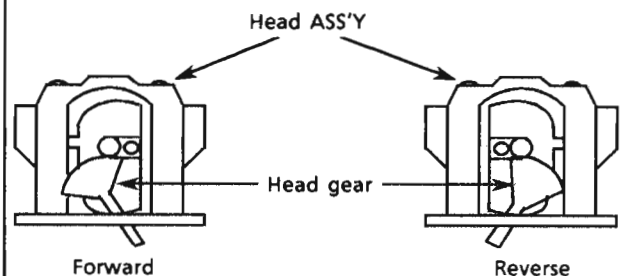

Fig 19
2. Remove the FPC holder (Fig 19).
1. Release the hook holding the pinch roller arm assembly to remove the assembly (Fig 19).
- (4) Capstan motor removal
3. Remove the screw (D) to remove the echo PCB (Fig 19).